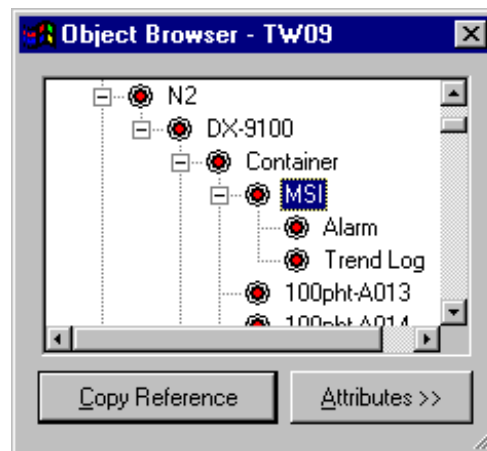

Figure 6-6: Object Browser with Expanded Objects
2. Navigate to the object with which you want to work. Click the plus (+) signs to expand trees and see the objects that they contain. See Figure 6-6.